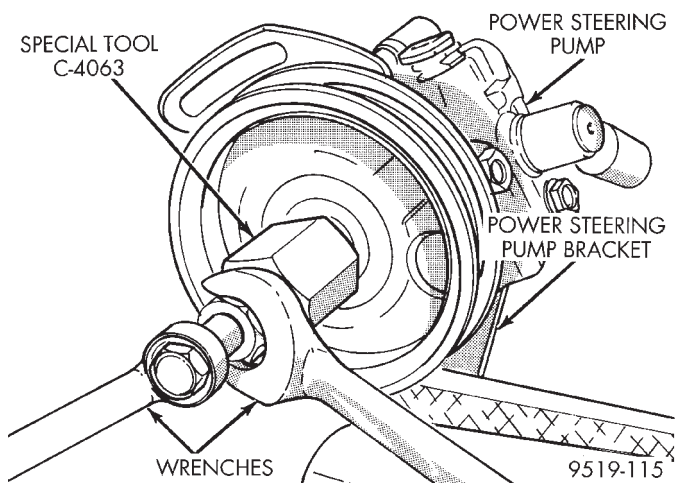

Fig. 54 Installing Pulley On Shaft Of PowerSteering Pump
(4) Mount Installer, Special Tool C-4063 in internal threads of the power steering pump shaft and against Special Tool 6936 on power steering pump pulley (Fig. 54).